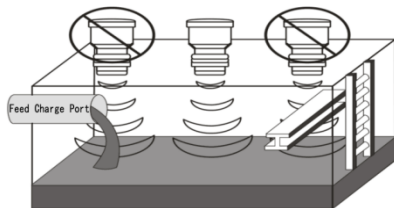

Figure 1.
- The probe generates ultrasonic pulse waves and detection echoes at the same time, and the ultrasonic pulse waves propagate out from the surface of the probe in a certain conical wave surface. There should be no obstructions in this area and should be kept away from the feed opening. The installation location of the probe should be selected where there are no obstacles between the emitting surface of the probe and the medium being measured. (See **Figure 1.**)